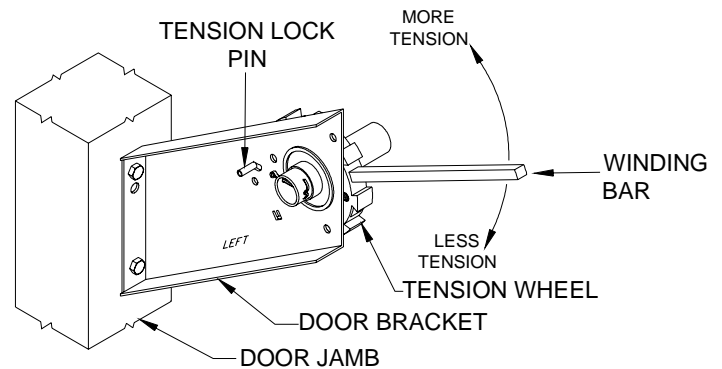

Figure 17.
13.3T to add tension, insert winding bar and move down until ratchet clicks after 1/8 turn. Move up slightly until ratchet locks in place. See Figure 17.
16.4 Carefully rotate the door away from the wall until NO tension is on the spring(s). Unbolt spring(s) from bracket(s). On doors with optional tension adjustment system, reference Step 13.1T and Figure 17 to remove all tension on that side of the door.